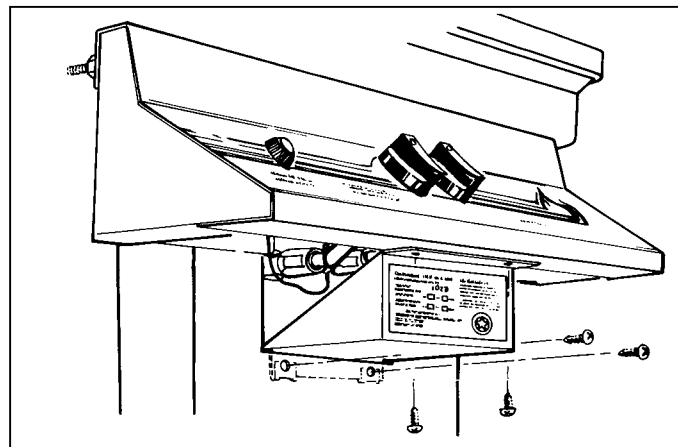

Figure 18 Collar box installation to pedestal and control panel
THIS CONNECTION WILL REQUIRE LEAK CHECK UPON ASSEMBLY COMPLETION. (see Fig. 18).
5. If there are no gas leaks, attach the collar box with AGA/CGA rating sticker attaching to the pedestal as follows (see Fig. 18):